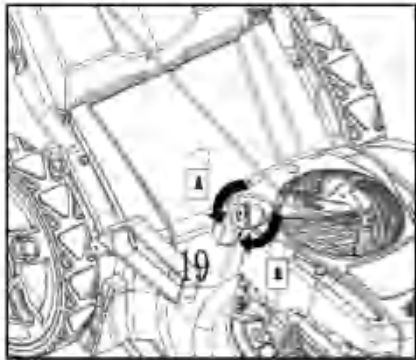

Fig.8
1. Unscrew and remove the oil tank cap (19) (Fig. 8).